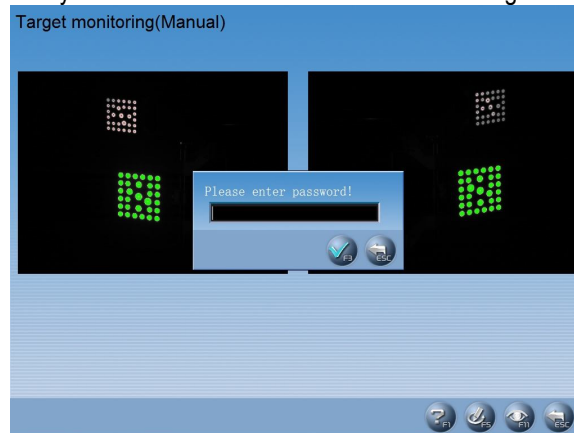

Fig.4.48
1. Backup: Click  button, find the position of the file you expect to save in pop-up dialogue box (The interface is as shown in Fig.4.48) or enter the path address directly in the blank of exported file path, and then click  button finally.
Note: After first installation or replacing the camera(s) during the maintenance, left camera and right camera may be exchanged, and it is required to perform the camera exchanging setting operation. Click [Camera exchange] icon on the interface of [Target monitoring], the system will enter the interface as shown in Fig.4.48.